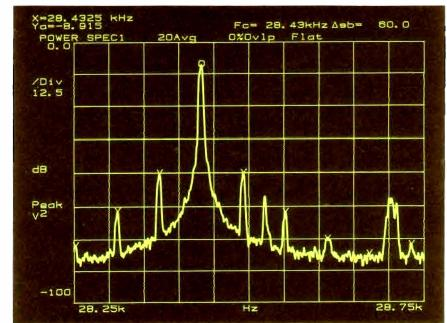
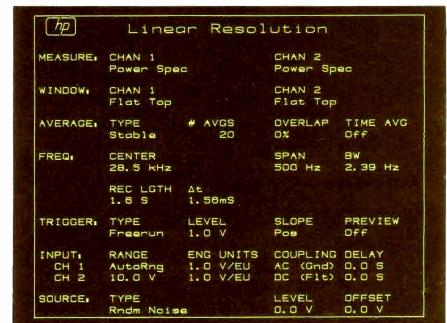

Figure 5-6
Figure 5-7
8. Sideband Frequency Select the **SBAND INCRMT** (sideband increment) softkey and enter the powerline frequency (50, 60 or 400 Hz). The spectrum display should be similar to Figure 5-6.
9. Display Power Select the **SBAND POWER** softkey to display the sideband power value as shown in Figure 5-6.
This example begins with the modulated spectrum shown in Figure 5-6; the setup state for this zoom measurement is shown in Figure 5-7. The following procedure is a demonstration of AM demodulation of this signal with the HP 3562A.